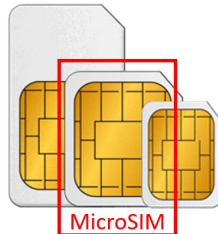

Figure 22. Required type of SIM-card — MicroSIM
1. SIM starting kit of any accessible cellular network operator with a microSIM size card (see fig. 22);